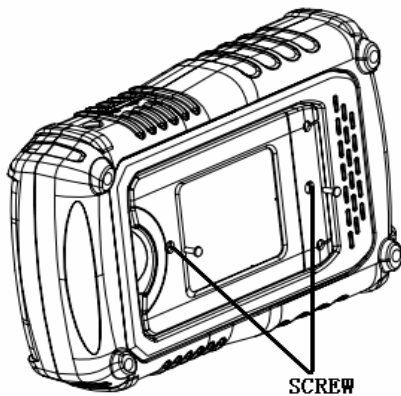

Figure 1
1. Unscrew the two screws from the battery cap with a screwdriver (Figure 1).